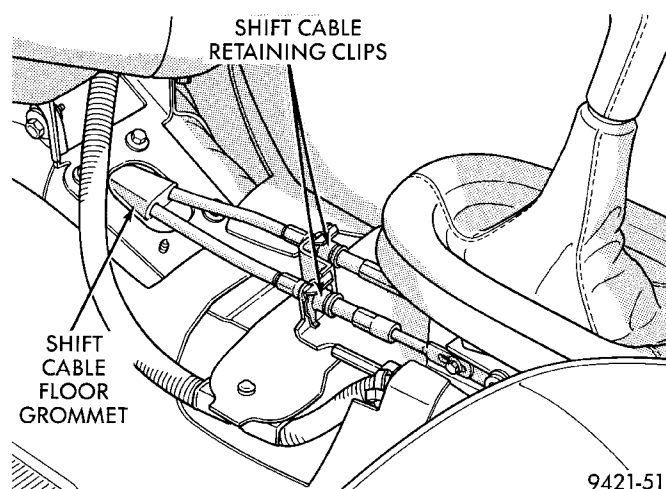

Fig. 13 Cable Retaining Clips
- (9) Remove cable retaining clips at shifter (Fig. 13).